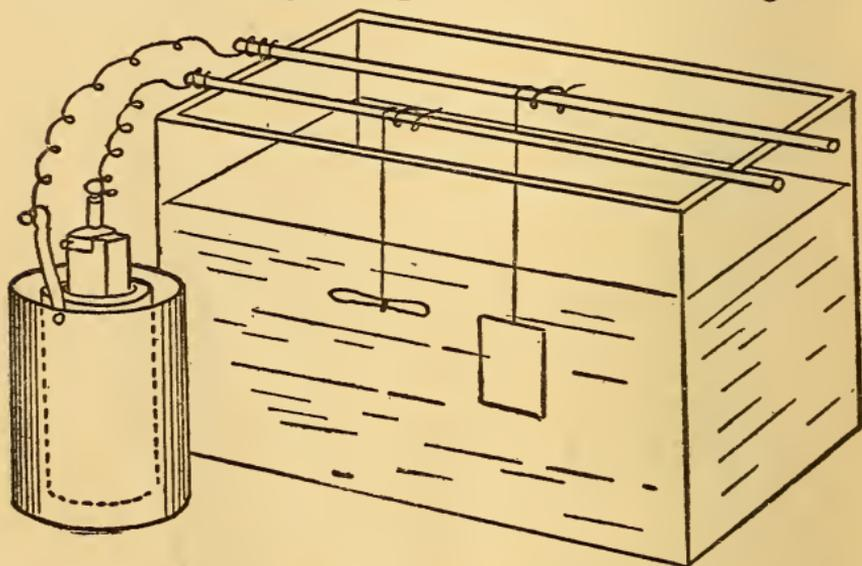

FIG. 67. AN ELECTROPLATING OUTFIT
**How Plating Is Done.**—The bath, which let us suppose is for copper plating, is made by dissolving *copper sulphate* ( $\text{CuSO}_4 \cdot 5\text{H}_2\text{O}$ ), that is blue vitriol, in water. Next clean the article to be plated well, loop a wire around it and connect it with the positive pole of the battery, connect a copper plate for the anode to the negative pole, as shown in Fig. 67.